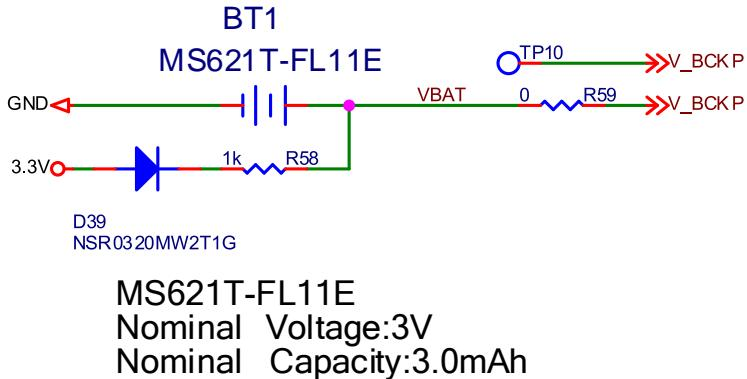

Figure 3-5 Backup Power Circuit
- When the backup battery supplies power to V_BCKP, the battery charging circuit should be designed to prevent reverse current to ensure that the battery only supplies power to V_BCKP and the current does not flow back into the 3.3 V power domain, as the D39 shows in Figure 3-5.
- According to the maximum charging current of the battery, a current-limiting resistor should be added, as the R58 shows in Figure 3-5.